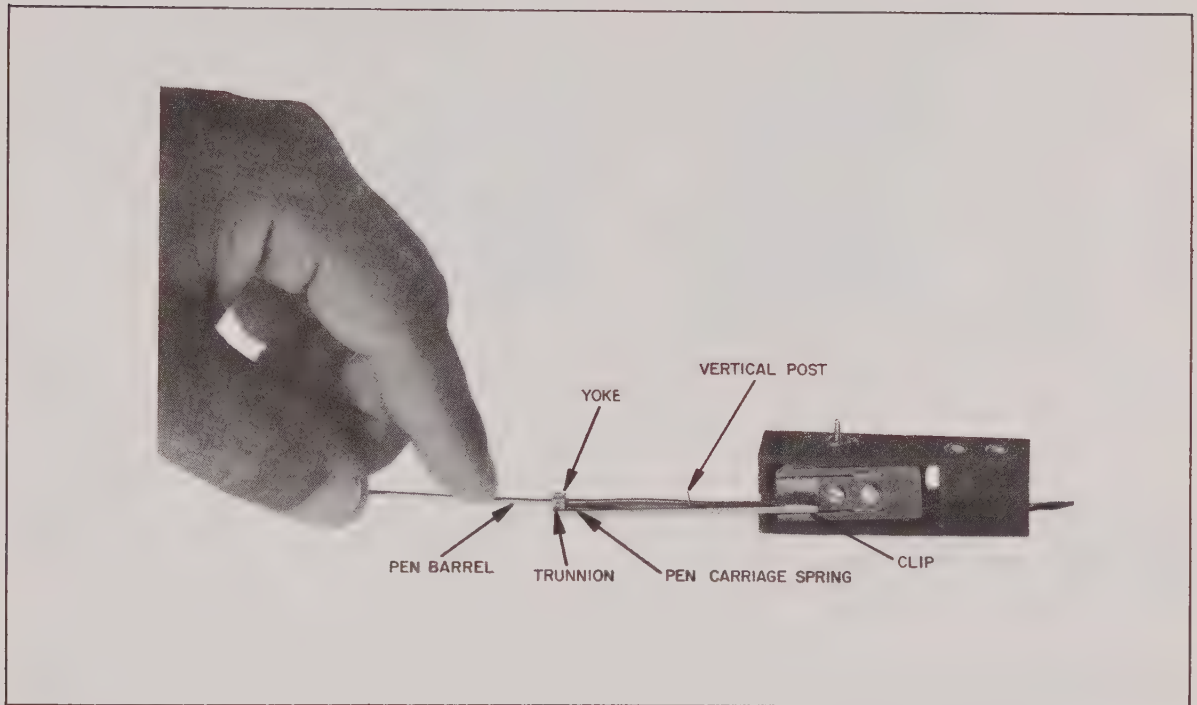
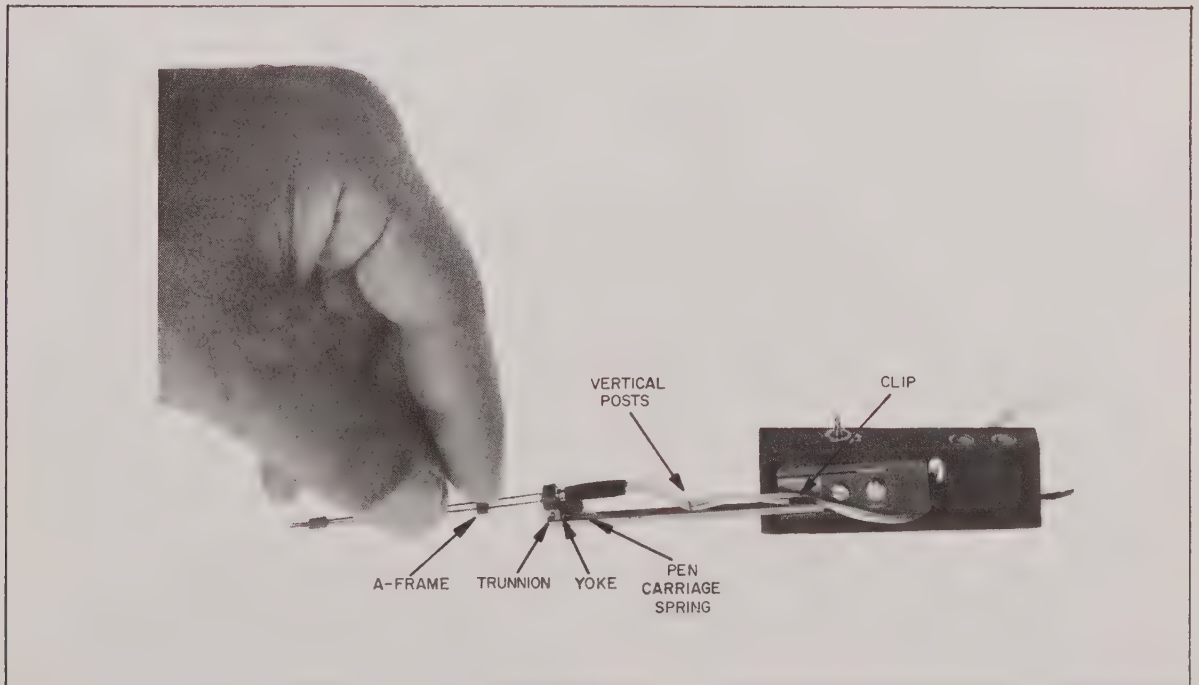

Figure 2-5. Installing and Removing Ink Event Marker Style, Steps 2 and 3
Figure 2-6. Installing and Removing Heat Event Marker Style, Steps 2 and 3
2. With the L-shaped pen tip pointing downward toward the paper, hold the pen barrel (ink, figure 2-5) or pen A-frame (heat, figure 2-6) between the thumb and third finger.
3. Place the pen trunnion against the yoke and with the forefinger gently press down on the pen barrel (ink, figure 2-5) or pen A-frame (heat, figure 2-6) until the trunnion rests against the rear of the yoke.